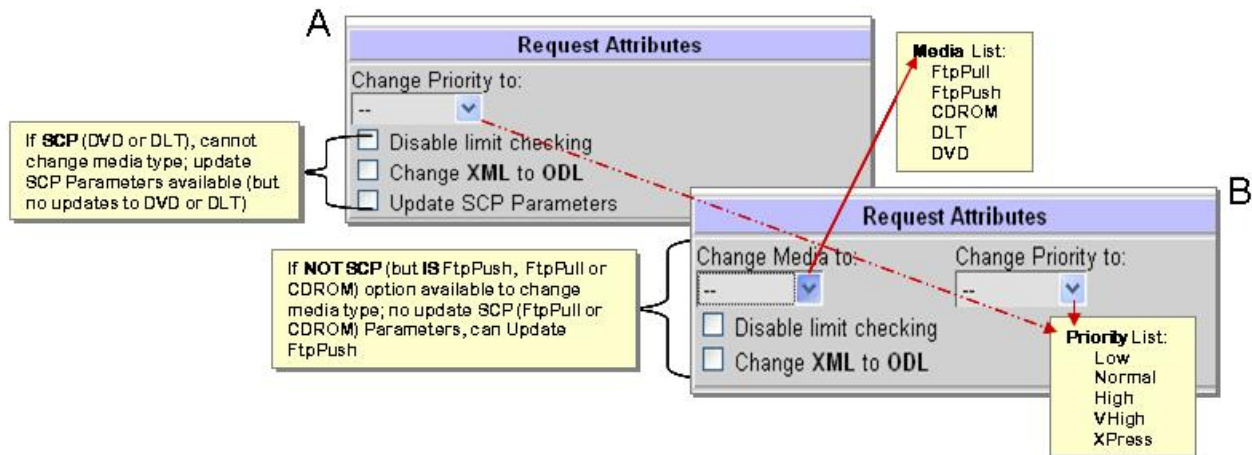

Figure 15.6-7. Request Attributes
- 14** Changing attributes (Figure 15.6-7 Request Attributes) of a granule will alter its characterization or features. Several changes to a granule attributes includes:
- **Update <media type> Parameters** – option allows for editing of existing selected media type when the intervention is closed. This option varies according to type of media e.g., if media type is SCP or FtpPush, this option is available; otherwise no action to update media parameters can be performed or is displayed. Example displays variation in Frames A and B of Figure 15.6-7 Request Attributes.